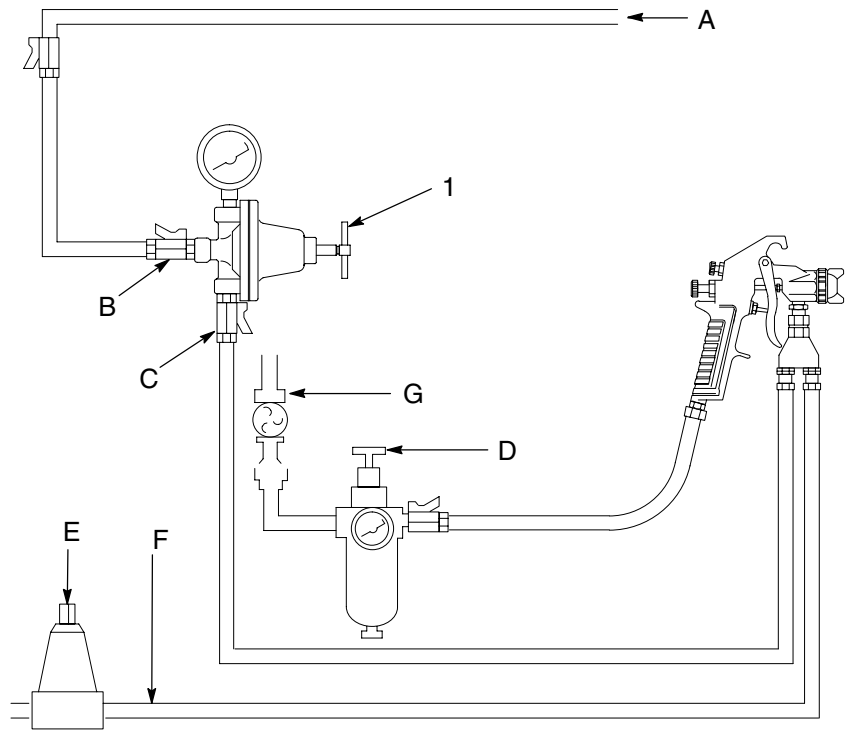

Fig. 1
1. See Figs. 1 and 2 on page 5. Install one regulator for each spray gun. Mount the regulator in a vertical position for the best flow and minimum pigment settling. The gauge, if used, must be mounted vertically. If the regulator is mounted horizontally, an elbow must be used so the gauge will be vertical.
2. Close the fluid regulator's inlet ball valve (B). Refer to Fig.1, page 5.
4. In spring-operated regulators, turn the adjustment handle (1) counterclockwise until the spring force is relieved.
NOTE: Reference numbers and letters in parentheses in the text refer to Figs.1 through 5 and the Parts Drawings.
2. Start the pump and open the fluid regulator's inlet ball valve (B) to admit fluid to the regulator. See Fig. 1.
- a. Shut off the pump and relieve fluid pressure in the system by opening the back pressure valve (E) or other bypass valve. See Fig. 1.
1. Shut off the pump. Close the ball valve at the regulator's fluid inlet. Refer to Fig. 1, page 5.